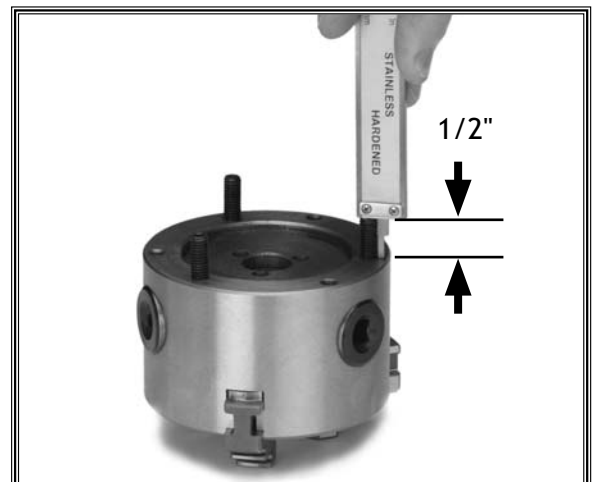

Figure 5. Checking stud protrusion.
5. Measure the stud protrusion, and make sure that the studs extend at least 1/2" from the chuck when tight (see Figure 5).